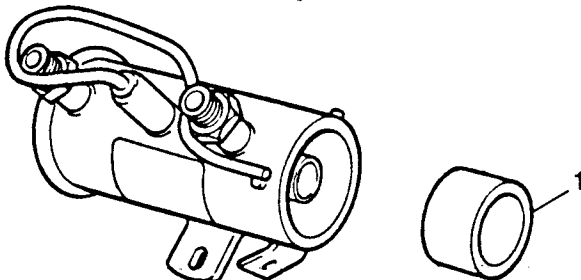

Fig C5.11
- (4) Refer to Fig C5.11. Withdraw the filter (1).